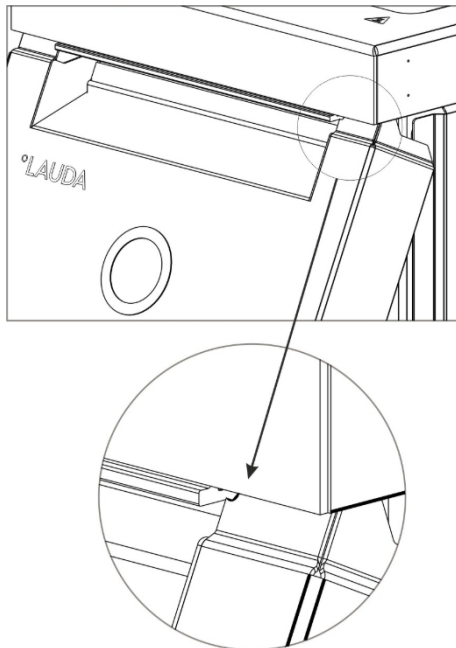

Fig. 72: Radii on the front panel
2. Only push the front panel up far enough so that the radii are still visible Fig. 72.